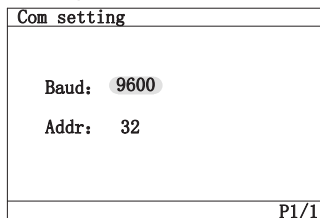

Figure 3.2 – Selecting Baud Rate and Modbus ID
- (a) When the inverter completes “sys checking”, the LCD shows the screen as Figure 3.2 below. Press ENTER to the standard selection interface, as shown in Figure 3.2.
- 7.) Communication Parameter Setting: The communication baud rate and Modbus address can be set in this menu (Figure 3.2):